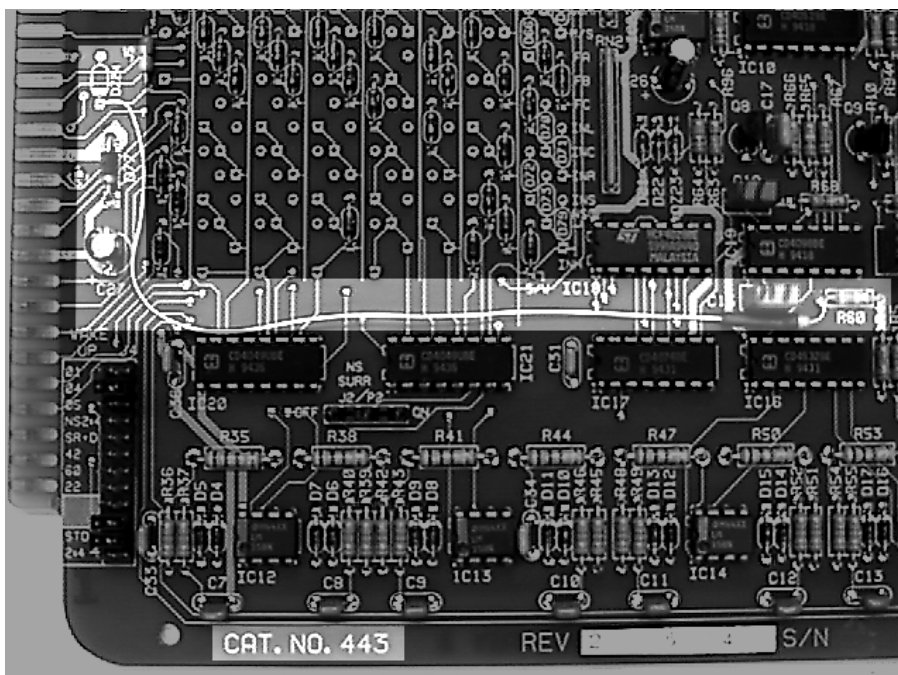

Figure 1 - Cat. No. 443 Modification
Examine your Cat. No. 443 before beginning these modifications. Units with "REV 3A" stamped on the solder side of the Cat. No. 443 circuit board have been factory modified. Also, if your board has the additional resistor shown in Figure 1 below, then modification to your board is unnecessary.
Cat. No. 443 Modification - See Figure 1
2. Remove diode DZ24 shown at the upper left of figure 1.
3. Prepare a 10k Ω ¼ watt 5% resistor by soldering an extension wire on one of its leads as shown in Figure 1.